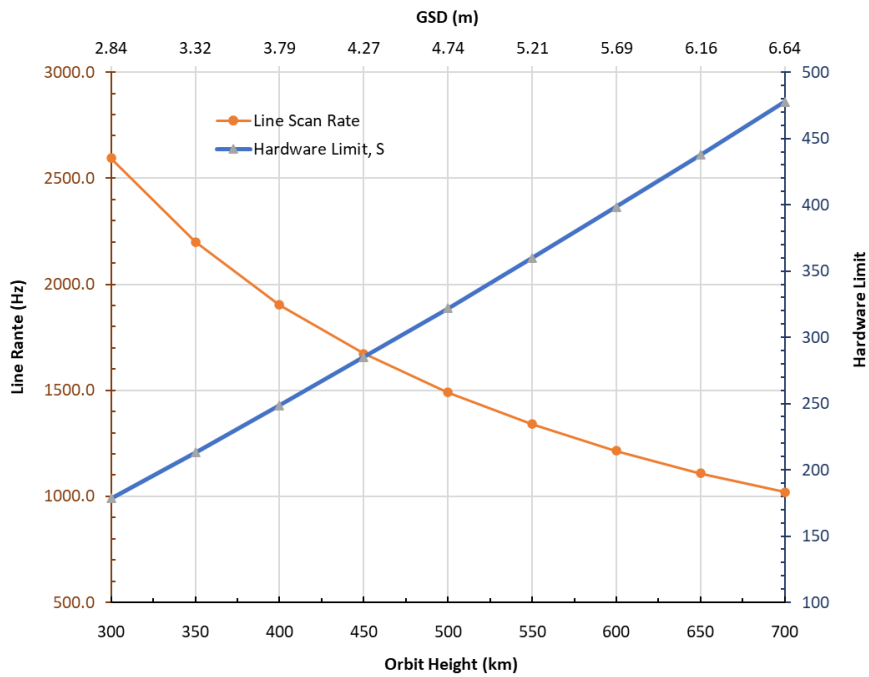

Figure 3-1: Line Rate vs Hardware Limit
(1) Including filter
(2) Dependant on orbit height, see Figure 3-1. Value calculated at 500 km orbit height.
S is the hardware limit, taken from Figure 3-1 for a given orbital height
Equation 1 states the maximum dTDI stages per band is limited to 8. Equation 2 ensures the sum of all the dTDI stages (across all the enabled bands) is within the hardware limit, S , set by the line scan rate, which in turn is determined by the orbit height for earth observation satellites, as shown in Figure 3-1.